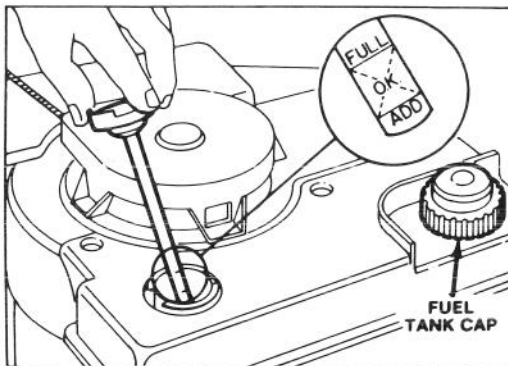

Figure 4
3. Wipe dipstick and insert it into filler neck. Rotate cap clockwise 1/4 turn. Then remove dipstick and check oil level of oil (Fig. 4). If level is low, add only enough to raise level to FULL mark on dipstick. **DO NOT FILL ABOVE FULL MARK BECAUSE ENGINE COULD BE DAMAGED WHEN STARTED.**
1. Clean around fuel tank cap and remove cap from tank (Fig. 4). Using unleaded gasoline, fill fuel tank to within 1/2 inch (13 mm) from top of tank.